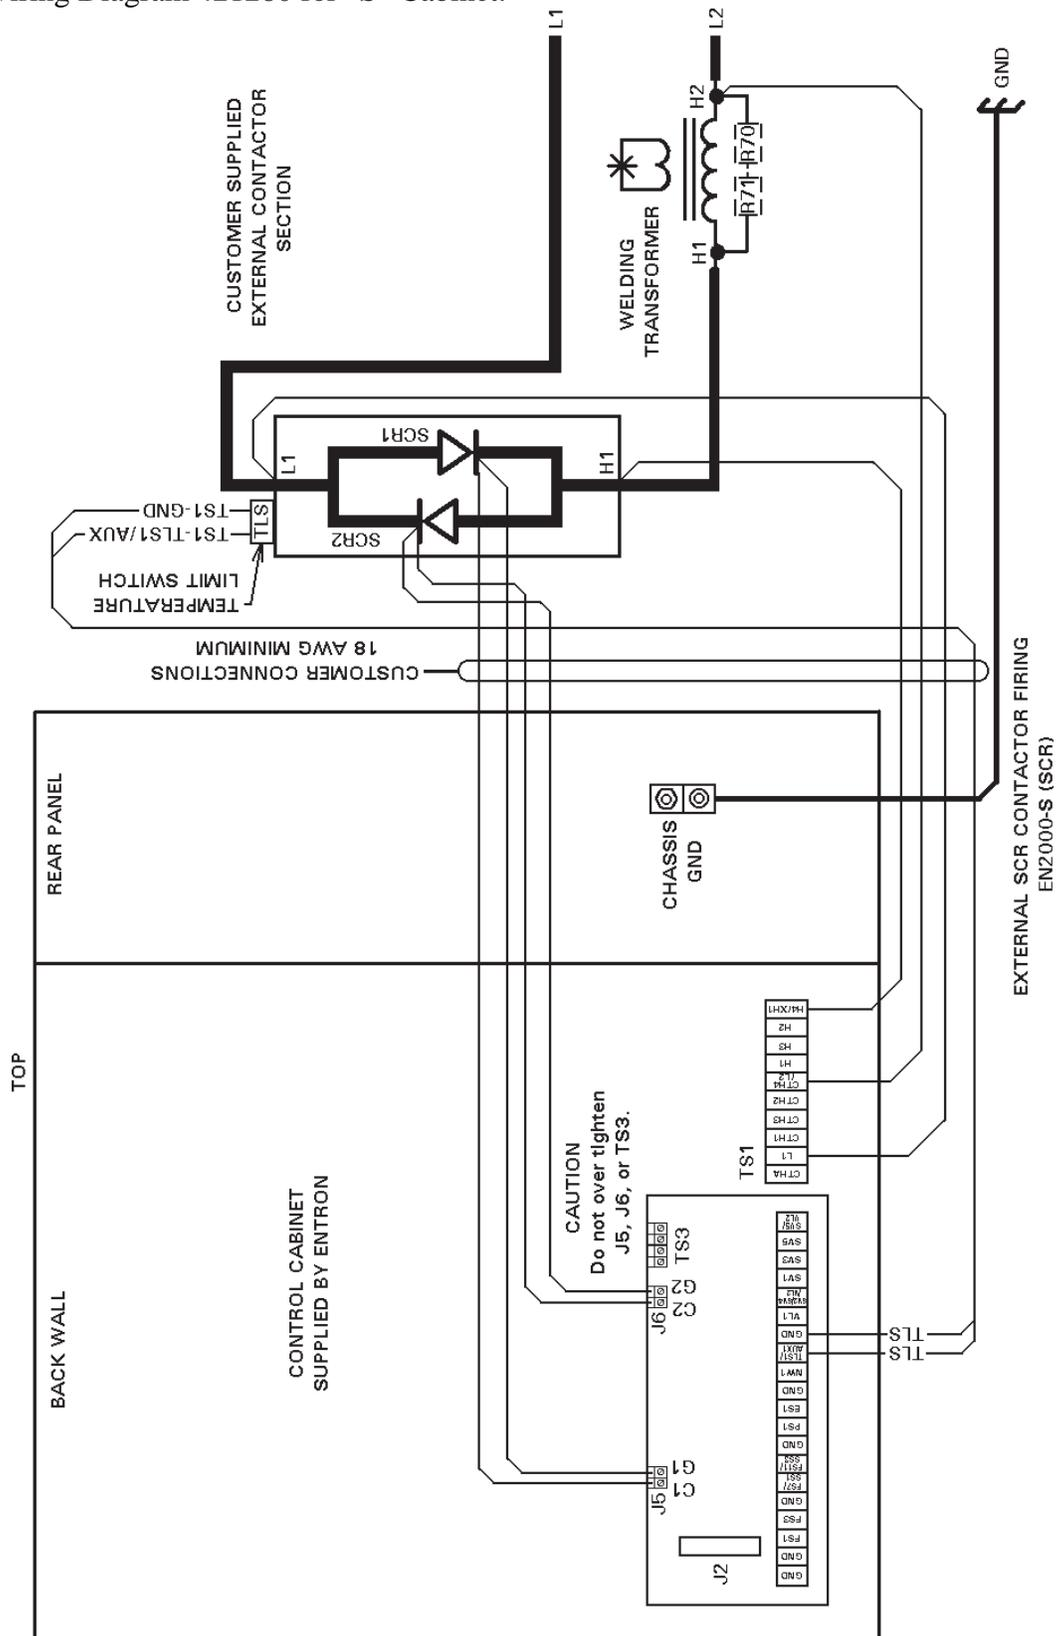

Figure 5-4. External SCR Contactor hook-up
– See Figure 5-4 (J5 and J6 are mounted on PCB2)